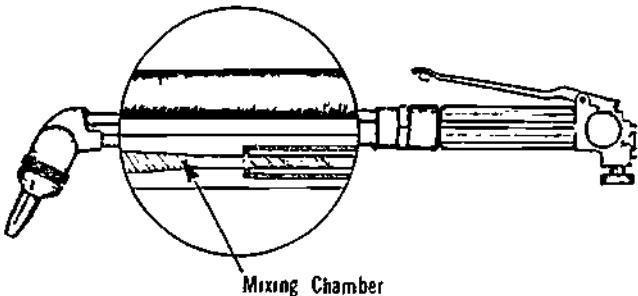

Figure 18-15. View of Mixing Chamber
- c) In a flashback, the flames burn back into the mixing chamber or beyond (Figure 18-15).